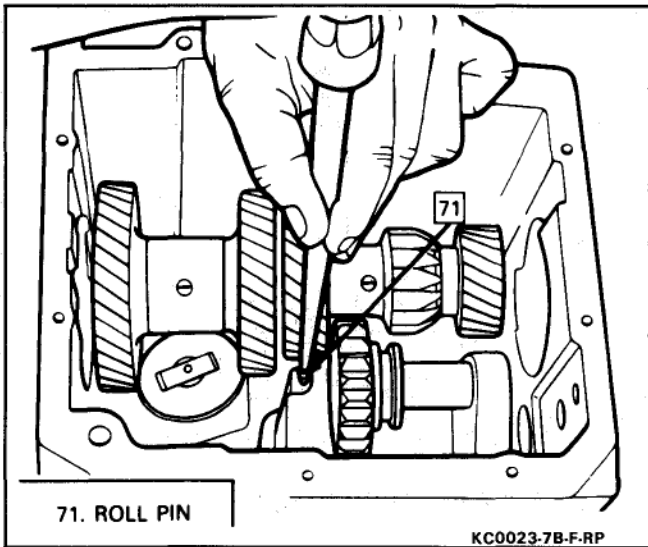

Figure 17 Removing Reverse Idler Shaft Roll Pin
25. Remove reverse idler shaft, rubber O-ring and gear from the transmission case (Figure 17).